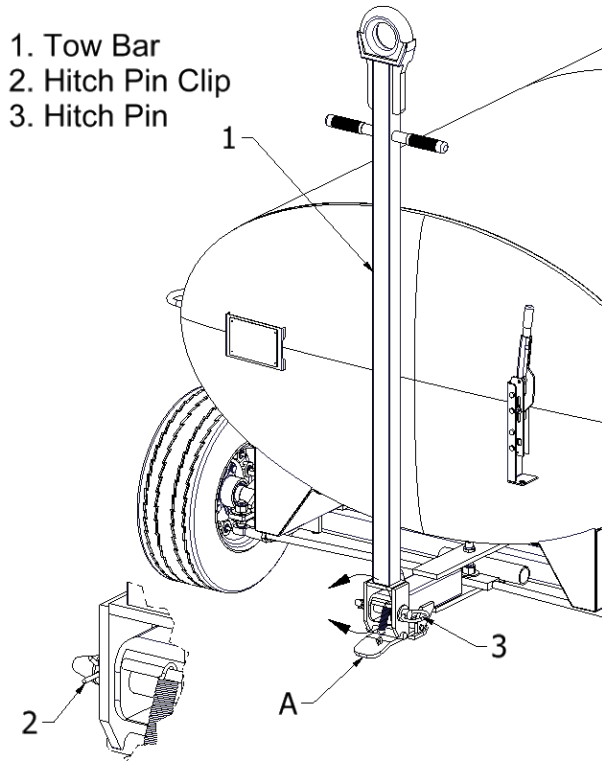

Figure 5-4. Tow Bar Removal
- c. Remove king pin (14) from yoke by using a rubber hammer.
- d. Grasp spindle assembly (18) and rotate toward front of tank until free of yoke. Remove spindle assembly from tie rod (15).
- e. Remove bushings (19) with bronze punch and hammer.
- g. Reassembly in reverse order. Nut (21) should not be tightened past snug.
5.3.3.4 Tow Latch Assembly. The tow latch assembly is used to secure the tow bar in the upright position. (See Figure 5-4).
- a. Remove tow bar (1) by placing the tow bar in upright, latched position. Remove hitch pin clip (2). While holding onto tow bar, place foot on toe latch assembly (See reference arrow A) and depress.
- b. Pull hitch pin (3) from steering arm assembly and place tow bar to the side.